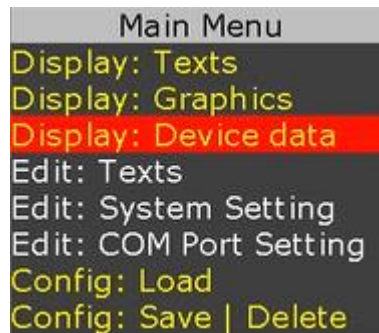
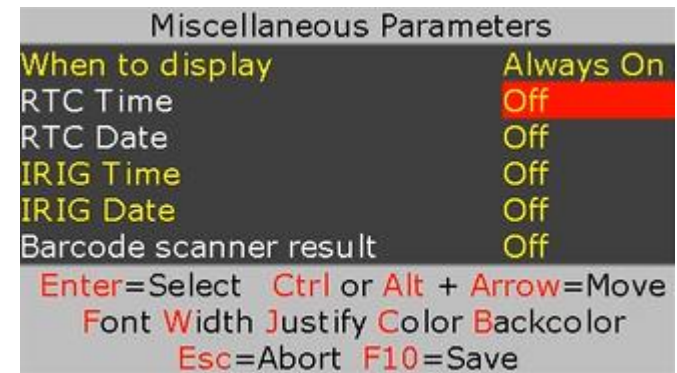

Figure 7
Figure 9
2. Follow Figure 7 - Figure 9 to insert the desired parameter
3. While in Figure 9, use  $\updownarrow$  arrow keys to select "RTC Time"
To customize the sample file to meet your needs, follow *Figure 7 - Figure 9* as well as *Figure 10 - Figure 13*